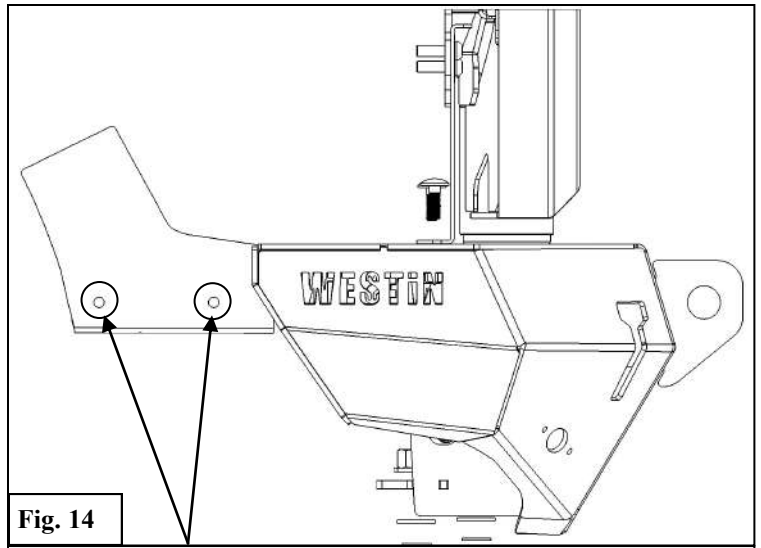

Fig. 14
16. Installation of the Quarter Panel Closeout Panels (5) will use the supplied M6 Hardware. For installation, align the Closeout Panel with the WJ2 Rear Bumper as shown in **Figure 14**.